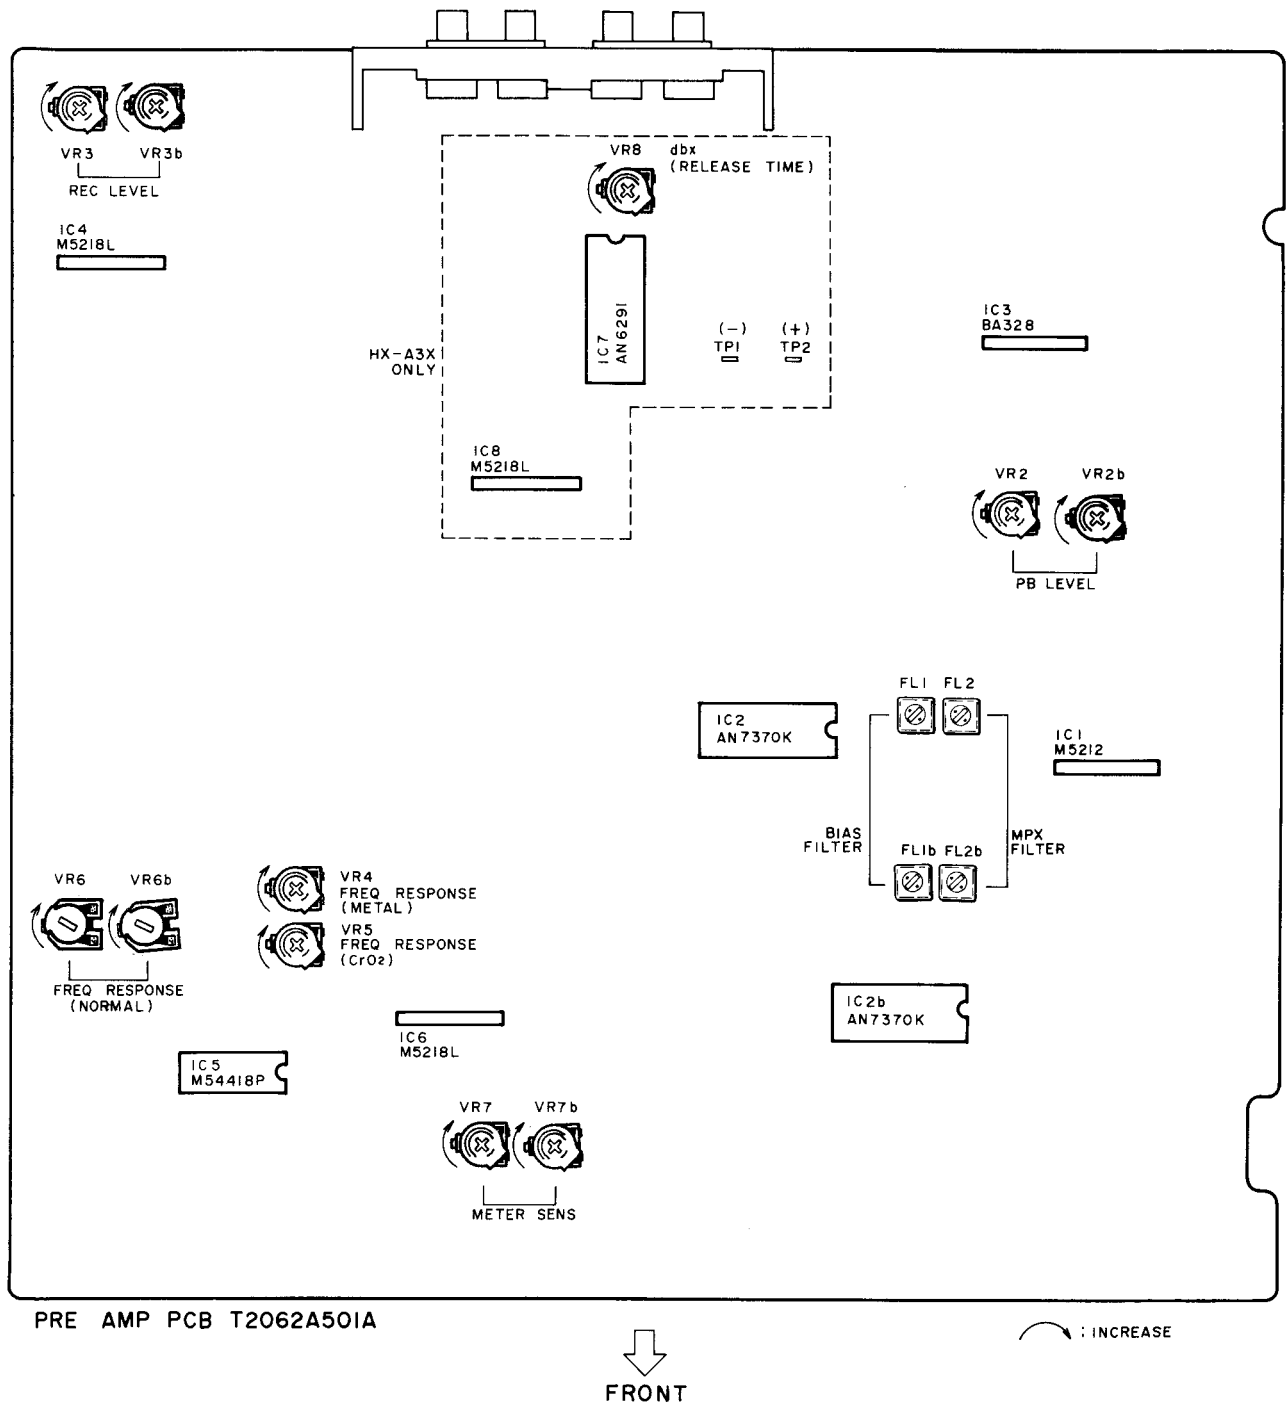

Fig. 6-1 Pre-amp Adjustment
3. Refer to Fig. 6-1, for above adjustments.